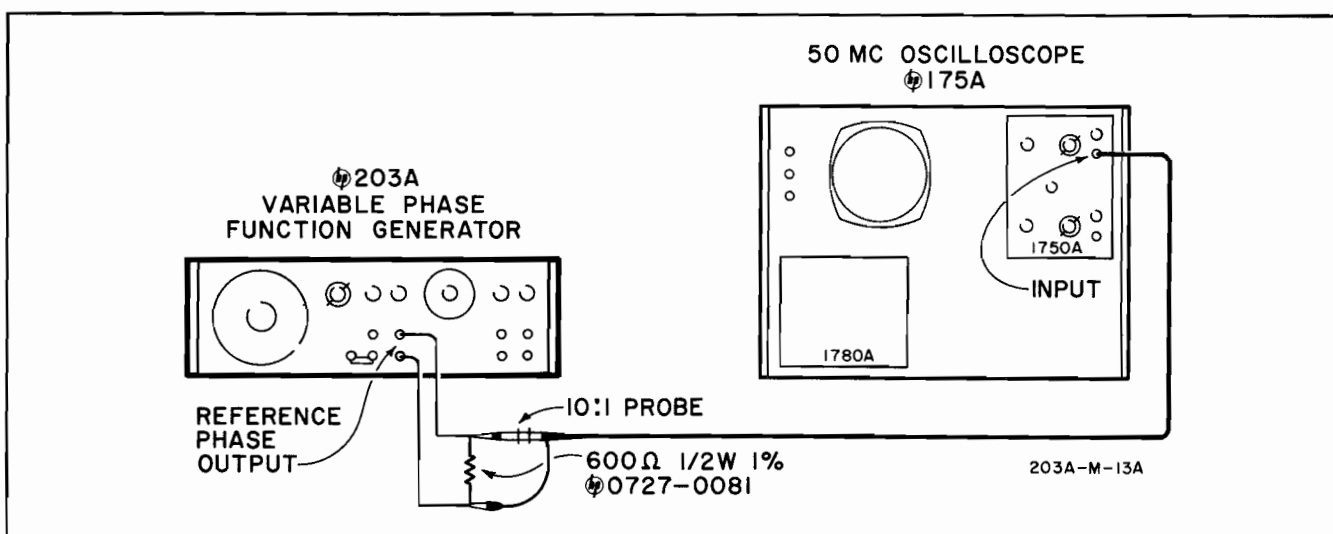

Figure 5-4. Square Wave Check
- a. Connect Model 203A as shown in figure 5-4 .